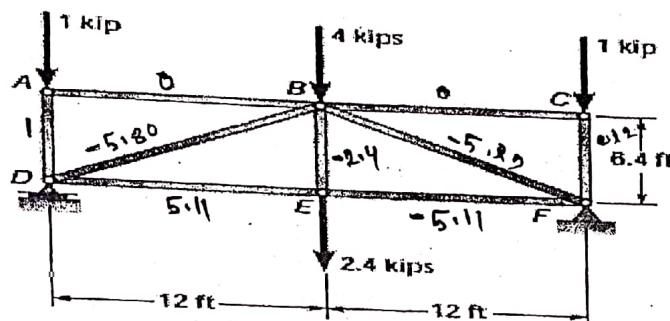

Figure 2(b)
- 2.a) Three loads are applied to a beam as shown in figure 2(a). The beam is supported by a roller at A and by a pin at B. Neglecting the weight of the beam, determine the reactions at A and B when $P=15$ kips. [5]
- b) Using the method of joints, determine the force in each member of the truss shown in figure 2(b). State whether each member is in tension or compression. [9]